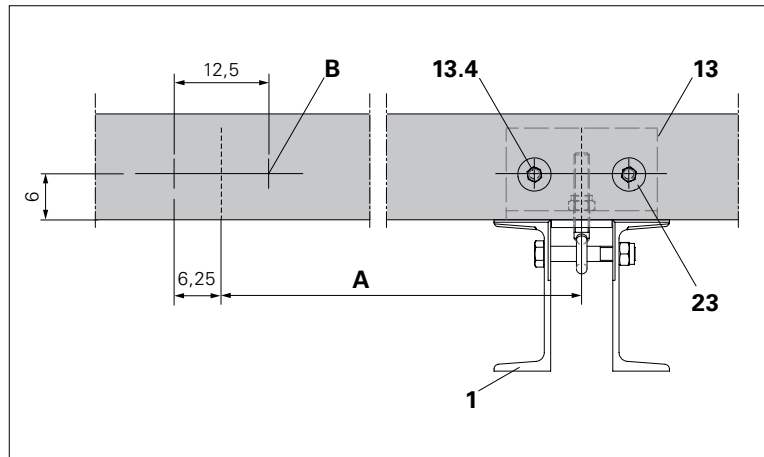

Fig. C3.03
1. Carry over the position of bracket axes A to the Enclosure Beam and mark drilled holes B which correspond to Fig. C3.03.
2. Place Timber Fixation (13) in the subsequent mounting position as drilling jig. Drill through timber with  $\varnothing$  12 mm. (Fig. C3.03)